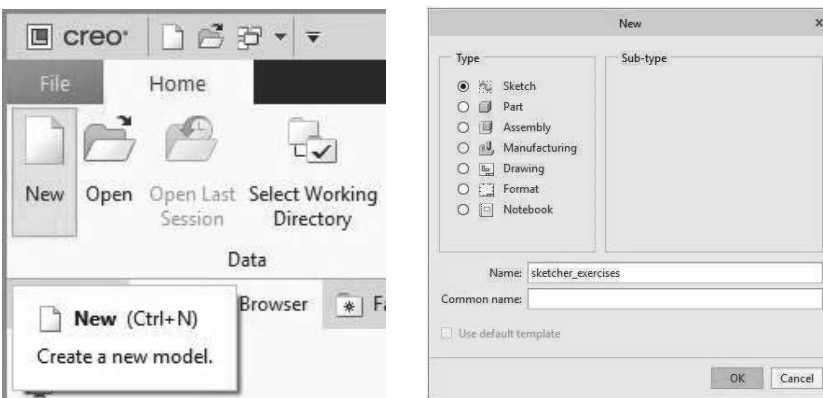

Figure 3-17 New Sketcher File
Step 3: Create a new sketch, named “sketcher_exercises” (Figure 3-17).